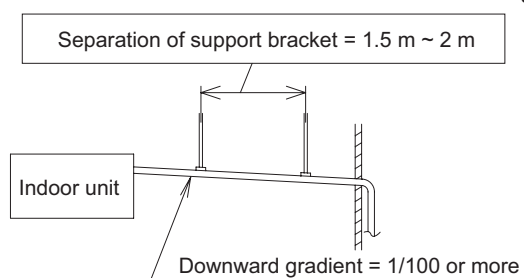

Fig. 2-48
- Make sure the drain pipe has a downward gradient (1/100 or more; downward from drain port connection). (Fig. 2-48)